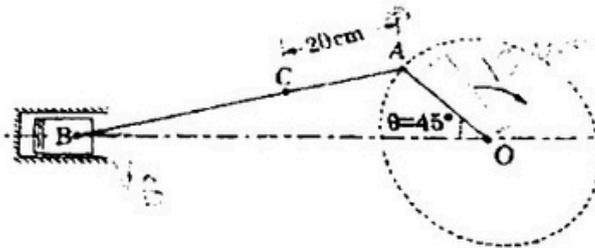

Figure 9
- (a) A reciprocating engine mechanism is shown in figure 9. The crank  $OA$  is of length 15cm and rotating at 600 r.p.m. The connecting rod  $AB$  is 70cm long. Find the (i) Angular velocity of the connecting rod (ii) The velocity of piston  $B$ . <https://www.ggsipuonline.com> (7)